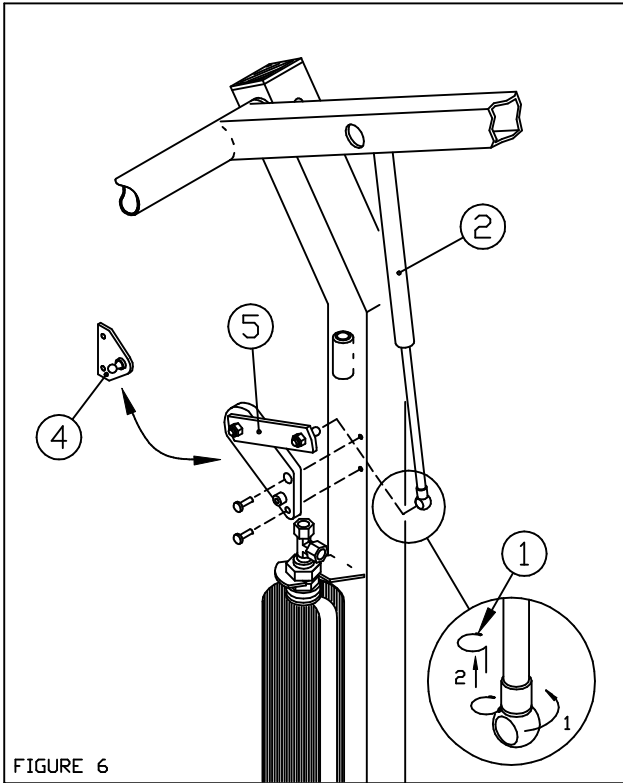

FIGURE 6
1. REMOVE SPRING CLIP (ITEM 1) FROM GAS SPRING'S (ITEM 2) LOWER BALL JOINT BY ROTATING THE CLIP FROM THE BALL JOINT, THEN SLIDING THE CLIP UP AND OUT FROM THE BALL JOINT (SEE FIGURE 6).
3. USING A PHILLIPS SCREW DRIVER, REMOVE THE GAS SPRING BRACKET AND REPLACE IT WITH THE NEW GAS SPRING BRACKET ASSEMBLY (ITEM 5), USING THE OLD SCREWS (SEE FIGURE 6). LIFT THE KNEE PAD ARM AND POP THE GAS SPRING SOCKET ONTO THE NEW GAS SPRING BRACKET ASSEMBLY. REPLACE THE SPRING CLIP TO LOCK THE GAS SPRING IN PLACE.